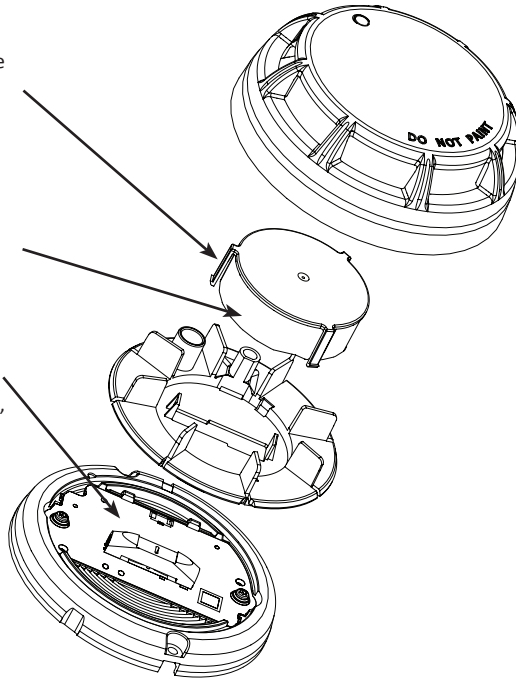

FIGURE 8: Remove Optic Cage from Detector for Cleaning (PAD100-PD only)
4. Remove optic cage (FIGURE 8) from detector circuit board by gently gripping the sides of the optic cage base and lifting from detector circuit board.
5. Remove optic cage from optic cage base, by gently squeezing the three connector arms and very gently lifting from optic cage base (FIGURE 8).